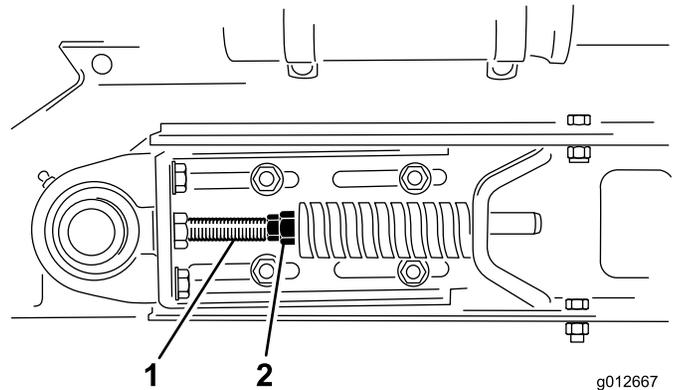

Figure 22
- 3. Loosen jam nuts and nuts on tension rod to release spring tension (Figure 22).